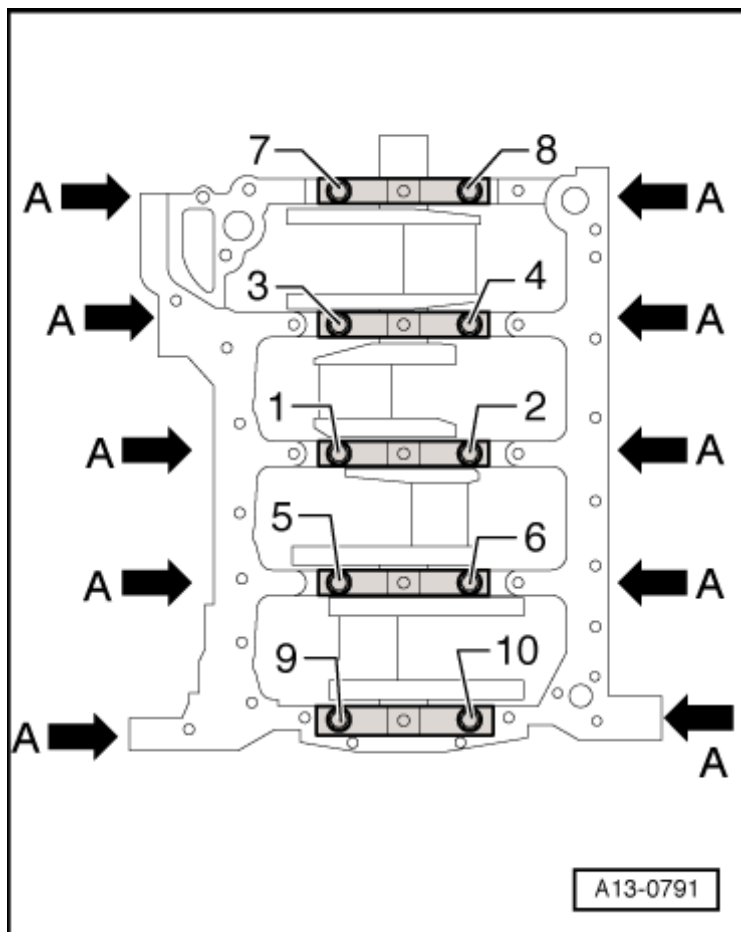

Fig. 13: Identifying Crankshaft Bearing Cap, Installing
- Observe the tightening sequence, refer to **Fig. 13**.
- Replace the sensor wheel every time the bolts -item 7- are loosened.